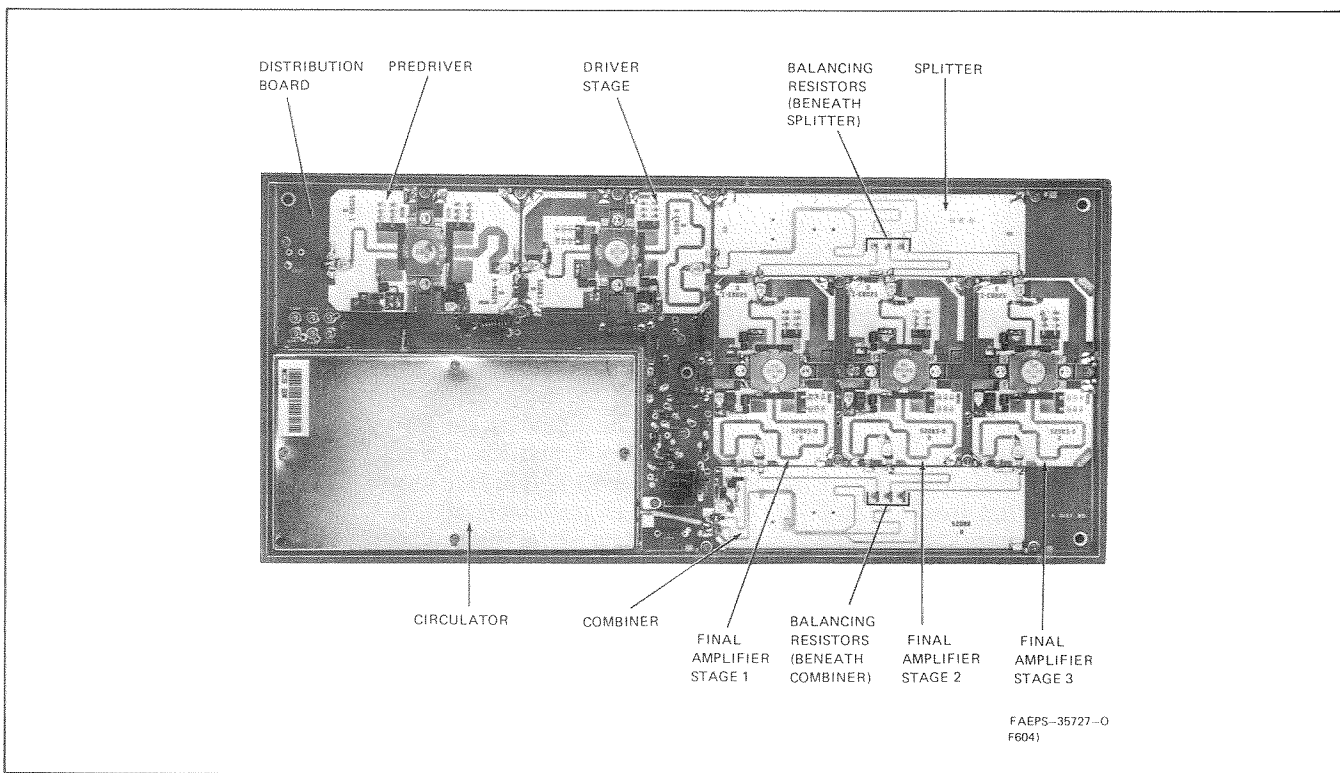

Figure 2.
2.2 Operating temperature of the PA is sensed by two thermistors. One thermistor (RT501) senses the temperature of the heat sink backplane and the other (RT571) senses the temperature of the circulator load. See Figure 2. The temperature information is used by the power control circuit to control the PA.